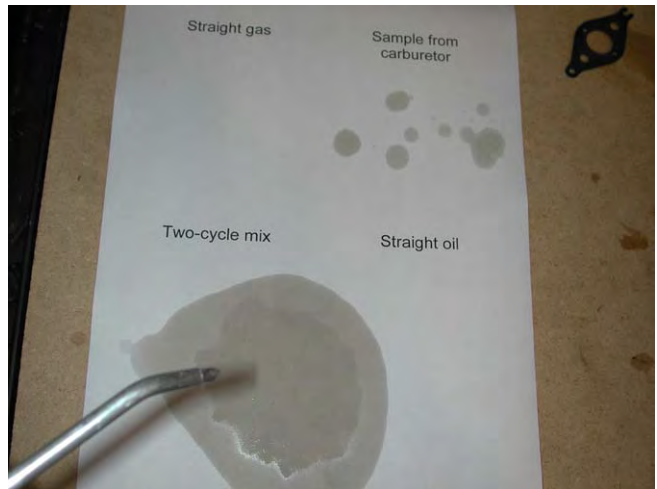

Figure 5.2
4. Place a sample of two cycle mix where it says two cycle mix, straight gas with straight gas and straight oil with straight oil. See Figure 5.2.